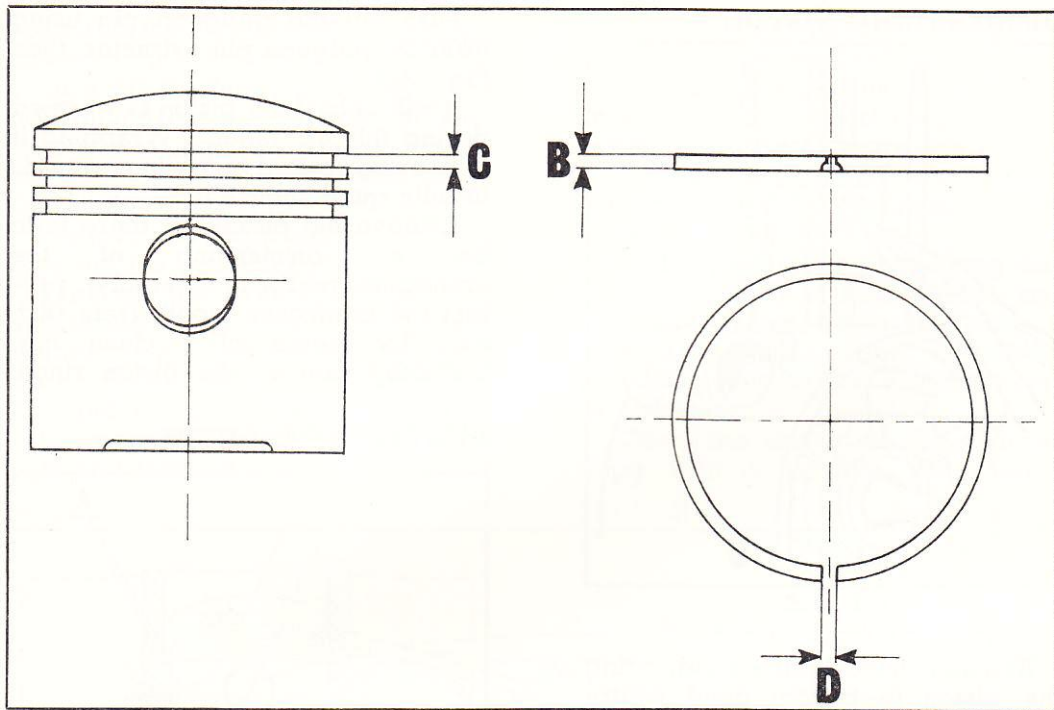

Fig. 26
The thickness (B) of the piston rings (see Fig. 26) is 0.0792" to 0.0797" when new. The height of the groove (C) must not exceed 0.0827". The piston ring gap (D) (with ring inserted in the cylinder) should not be less than 0.008", nor more than 0.020".